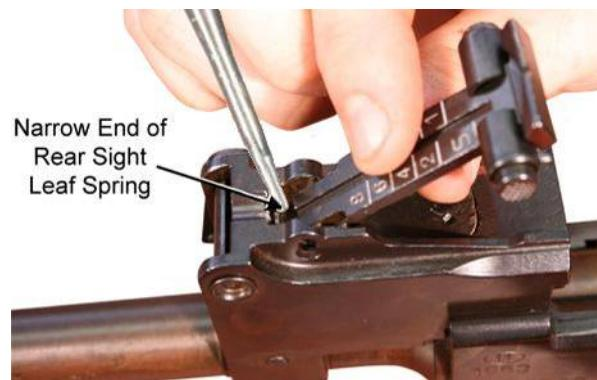

Figure 11. Dislodging the Rear Sight Assembly for Removal.
c. Tilt the rear sight assembly to a 45° angle. While pressing down and forward on the narrow, forward end of the rear sight leaf spring with a punch or flat head screw driver, hold the rear sight assembly with fingers and press down firmly to remove the rear sight assembly studs from the holes in the rear sight base. Refer to Figure 11.